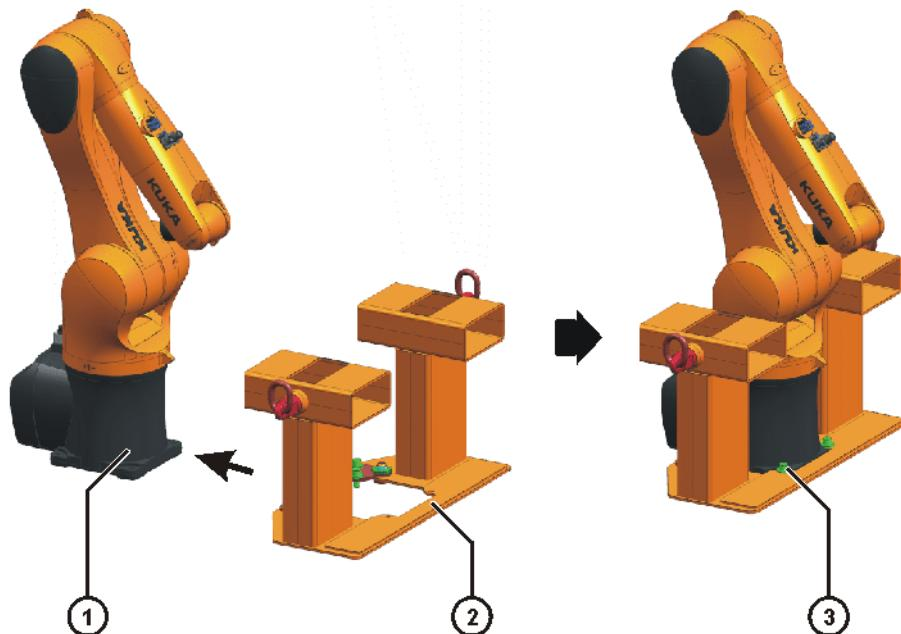

Fig. 8-4: Pushing on the Load Lifting Attachment and fastening it at the front
2. Carefully push the Load Lifting Attachment onto the base frame of the robot from the front (**>>>** Fig. 8-4).